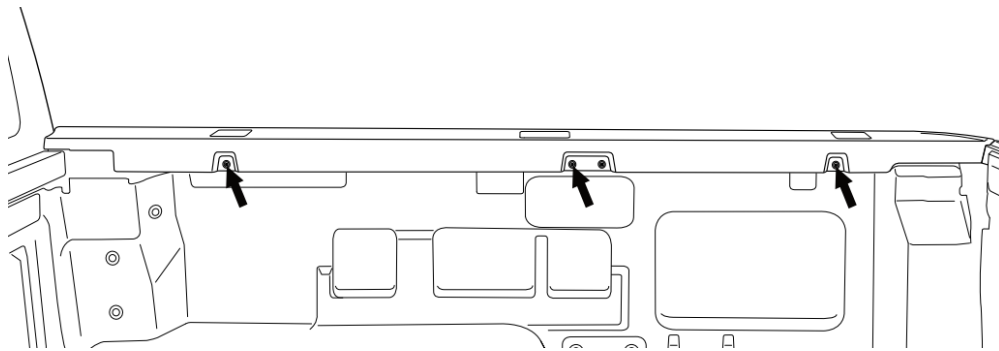

Figure 1
- a. Remove the three factory screws pointed above, using a philips head. *See Figure 1*